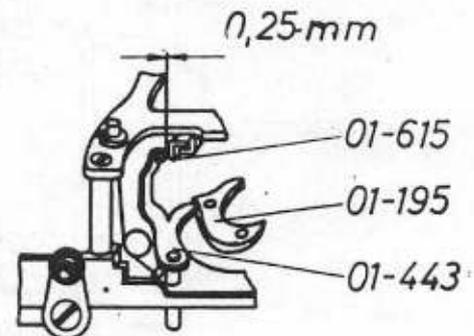

Fig. 32.1
2.14 In the case of a faulty reading at the $\frac{1}{1000}$ second setting of the shutter speed dial check whether the separation between the contacts of the flash setting lever 01-615 and the flash contact bar 01-443 is 0.25 mm. (see fig. 32.1). If necessary bend the contact on the flash contact bar 01-443 into the required position with the bending tool 42-253.01-U443 W5.
2.15 In the case of an incorrect reading at the $\frac{1}{50}$ second setting (set to $\frac{1}{60}$ on Leica models from No. 854 001 onwards) of the shutter speed dial remove the cover plate (see sheets 1 and 2) and the rangefinder (see sheet 5). Bend the arm of the flash contact bar 01-443 bearing against the cam 01-195, using the bending tool 42-253.01-U443 W6 (see fig. 32.1). If the contact is made too late, bend this arm to the left; if the contact is too early, bend to the right.